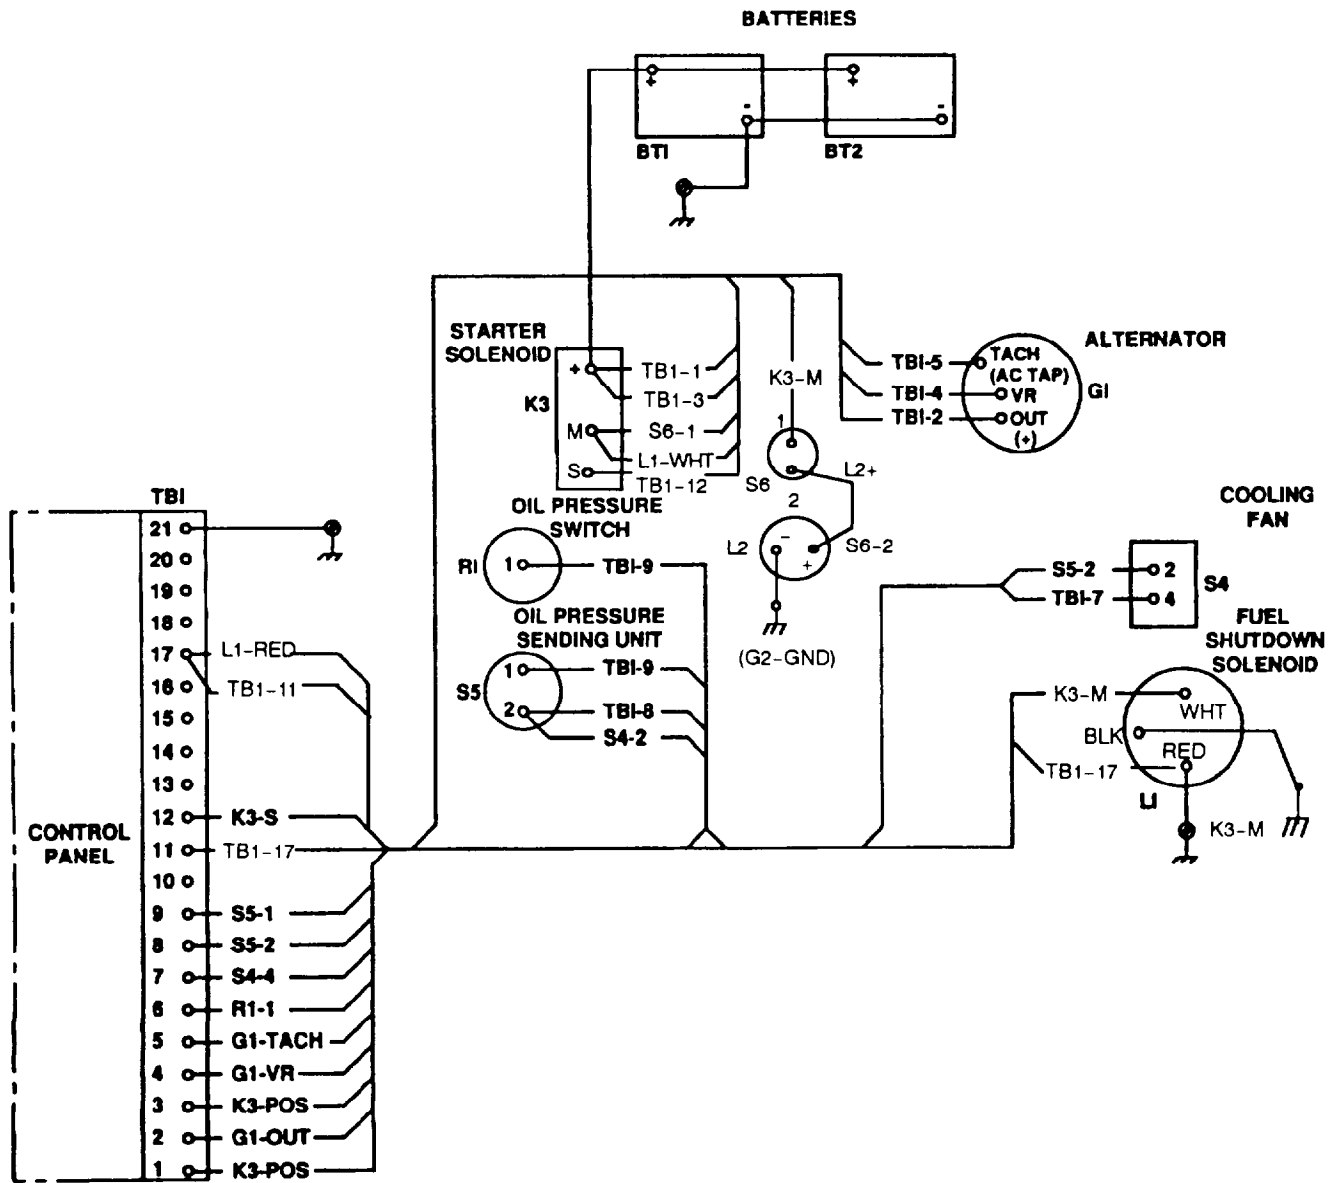

Figure 4-39. Wiring Harness Testing (Sheet 2 of 2) (Model 350 PAWN).
- a. Remove screws (figure 4-39 sheet 1, 1), lockwashers (2) and flatwashers(3) that secure control panel cover (4) to control panel.
- b. Remove control panel cover (4).
- c. Tag and disconnect wires from terminal (5) as necessary.
- d. Using multimeter, check continuity of wires using figure 4-39 sheet 2 as a guide.
- g. Secure cover (4) to control panel with flatwashers (3), lockwashers (2) and screws (1).
■ Figure 4-39. Wiring Harness Testing (Sheet 1 of 2) (Model 350 PAWN).
- (1) Connect wires to alternator (view D, 6) and remove tags.
- (2) Connect wires to starter solenoid (view E, 5) and remove tags, Note that Model 350 PAWN uses two more wires than other models.
- (3) Connect wires to V-belt contact switch (view C, 4) and remove tags.
- (4) Connect wires to fuel shutdown solenoid (view B, 3) and remove tags. On Model 350 PAWN wires are connected to corresponding spade connectors.
- (5) Connect wires to low oil pressure switch (view A, 2) and remove tags.
- (6) Connect wires to oil sending unit (1) and remove tags.
- (7) On Model 350 PAWN only, connect wires to starting aid temperature switch (view F, 8) and remove tags,
- b. Connect wires to terminal board (figure 4-39, sheet 1, view B, 8) and remove tags.
- c. Install control panel cover (view A, 7) and secure with washers (5), lockwashers (4) and screws (3) not used to install cold weather start kit (view C, 6).
- d. Install cold weather start kit (view C, 6) using washers (5), lock-washers (4) and screws (3).